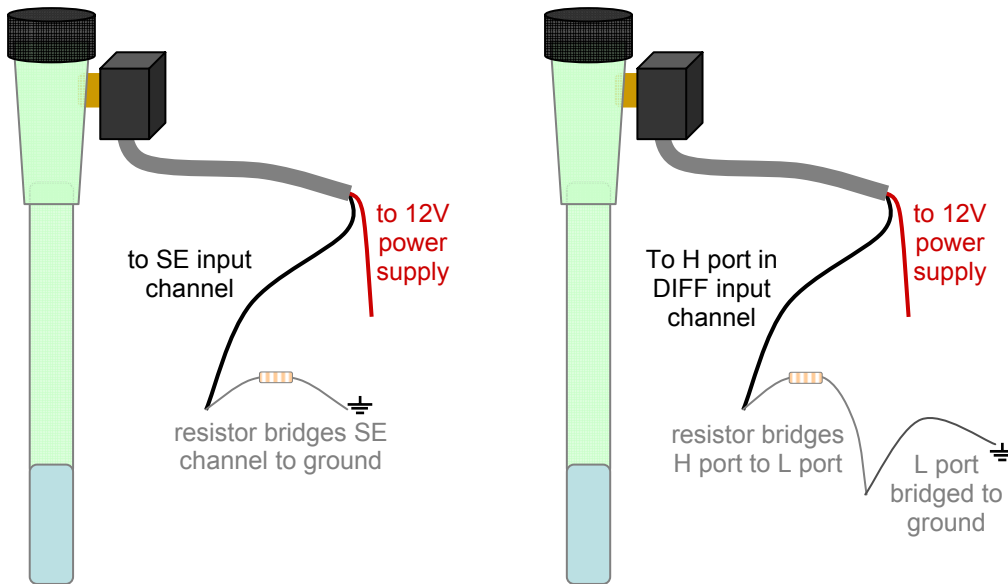

Figure 1. How to wire the electronic pressure transducers to a datalogger in single-ended (left) and differential (right) configuration.
The tensiometers may be wired to the datalogger in single-ended (SE) or differential (DIFF) configuration (Figure 1). Differential measurements require more input channels than single-ended measurements, but give measurements with better resolution.